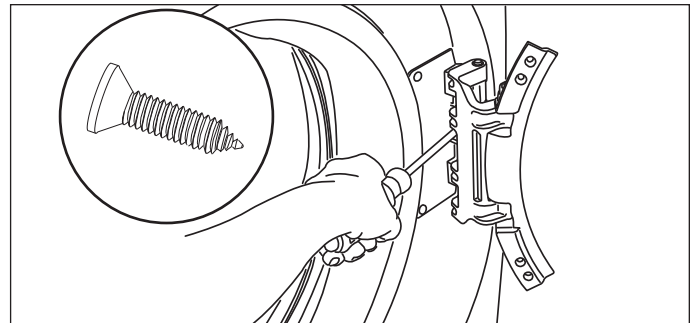

Figure 2-31.
4. Use the side locating pins to align the hinge and install 1 short, fine-thread, counter-sunk screw in the center hole of hinge side. (See Figure 2-31)